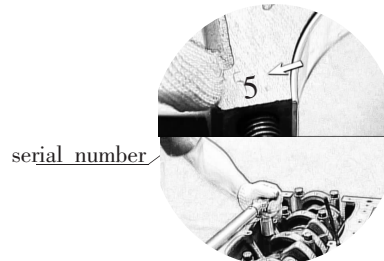

Fig 5-5 Main Bearing Cover Installation
1.5 Pay attention to sequence number on main bearing cover before installation, arrow mark is toward front end of crankshaft, not let them in disorder. Tighten main bearing bolts starting from middle to each ends across two times, tighten torque is 201-206 Nm (see Fig 5-5).